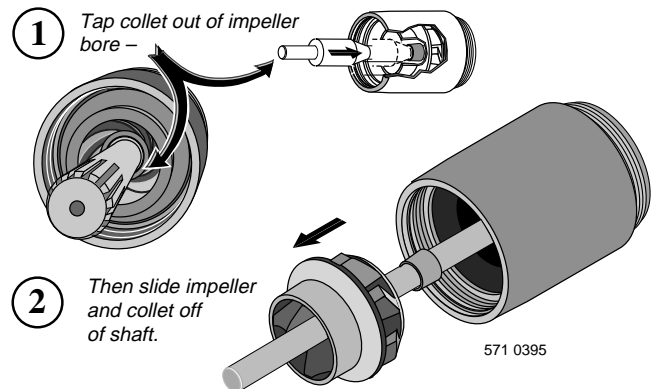

Figure 2: Remove Impeller.
3. Tap collet out of first stage impeller (See Figure 2); slide impeller and collet off of shaft.